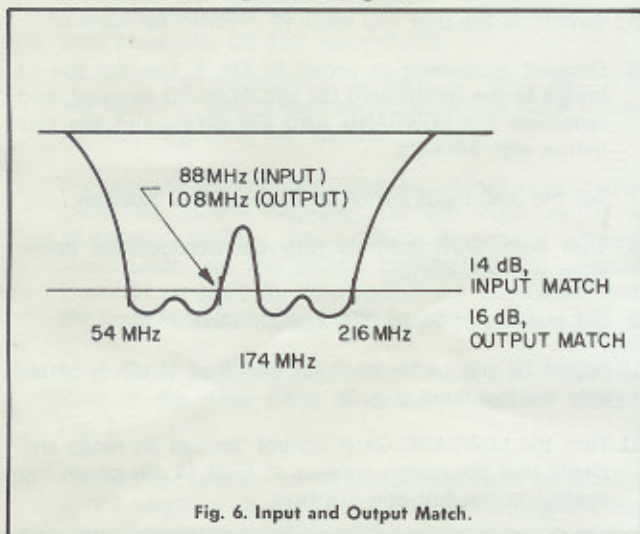

Fig. 6. Input and Output Match.
- 2.10 Adjust L2 and L4 for an input match of 14 dB or better over the low band (Fig. 6).
2.12 Adjust L1, L3, and L5 for an input match of 14 dB or better over the high band (Fig. 6).
2.17 Adjust L20, L21, and L23 for an output match of 16 dB or better over the low band (Fig. 6).
- 2.19 Adjust L19 and L22 for an output match of 16 dB or better over the high band (Fig. 6).